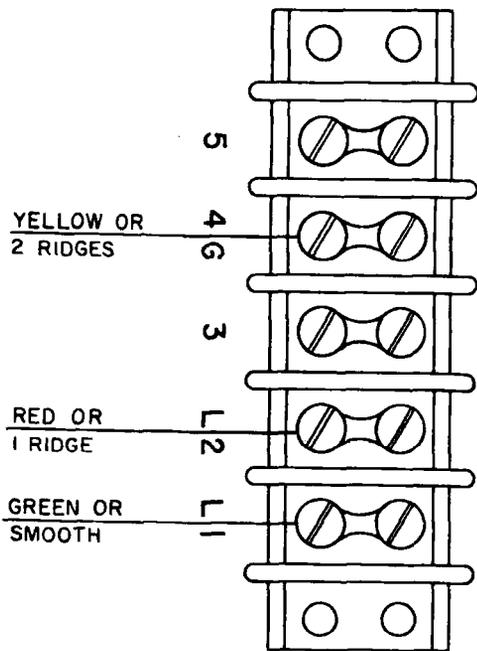

Figure 6. Terminal strip connections for party-line standard telephones rung on + line (tip).
**Divided ringing on the + (tip) line.** For divided ringing on the + (tip) line move the black capacitor lead from terminal strip position L2 to 4G as shown in figure 28. Connect the line wires as shown in figure 6